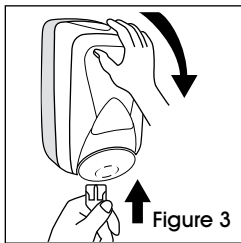

Figure 3
4. Open dispenser by inserting key into key access holes and push up until front cover opens. (See Figure 3)